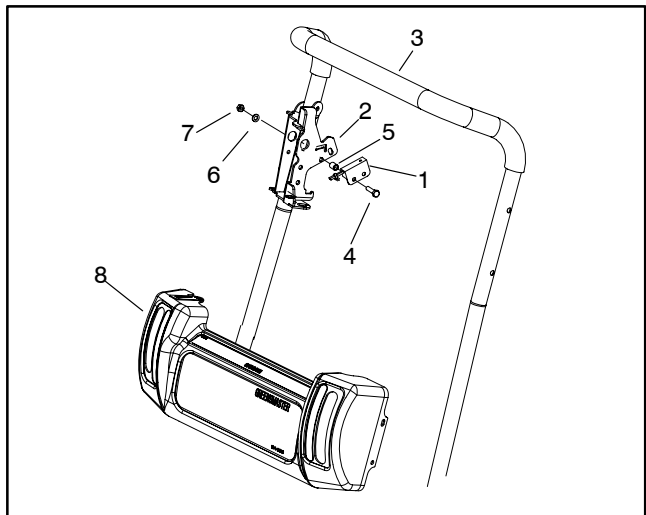

Figure 7
2. Remove fasteners and spacers that mount switch to control bracket on handle (Fig. 7). Remove switch from bracket.